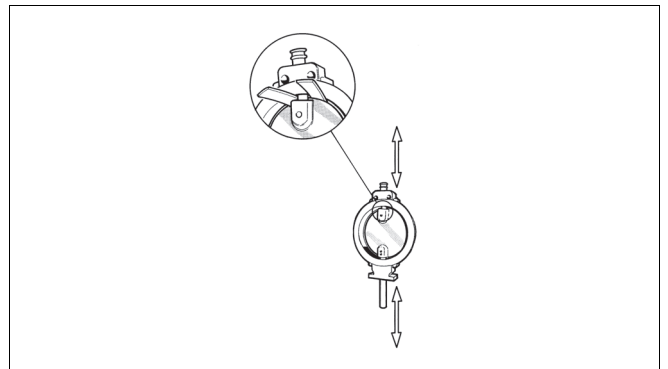

Fig. 16 Protecting the disc during disassembly and assembly
- Drill the holes carefully to the centre of the pins (14). Choose a drill 0.2-0.5 mm smaller than the diameter of the pin.
- Detach the screws (26) and the blind flange (10) and remove the gasket (18).
- Place rubber strips or other protection between the disc edge and the body and remove the shafts (see Fig. 16).
Place the disc horizontally on a surface so that the flat side of the disc lays against the surface. Lift the body around the disc so that the shaft bores are aligned with the bores in the disc. Protect the disc (see Fig. 16).